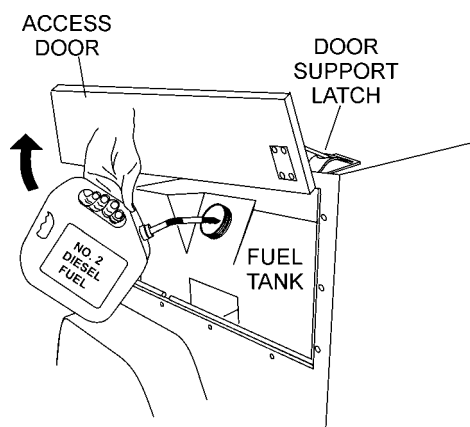

Figure 12. Adding Fuel
2. Lift the light tower access door (Figure 12) opposite the control panel. Set the door support latch in place to keep the door open (up).
3. Remove the fuel cap from the fuel tank as shown in Figure 12.